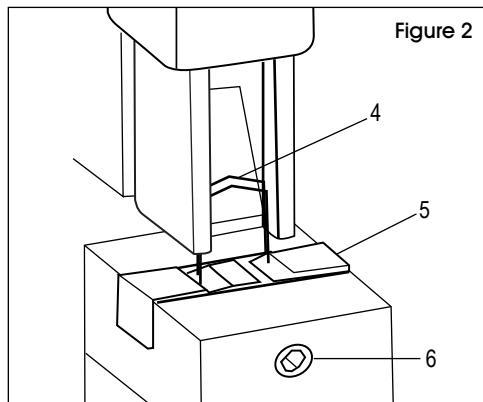

Figure 2
1. Slide down a staple (4) by hand until the staple legs are visible. (See Figure 2)
2. Move the staple toward the anvil (5) until the staple legs hit the anvil symmetrically. (See Figure 2)
3. If necessary, loosen the screw (6) and center the anvil to the staple. Lock screw after adjusting. (See Figure 2)